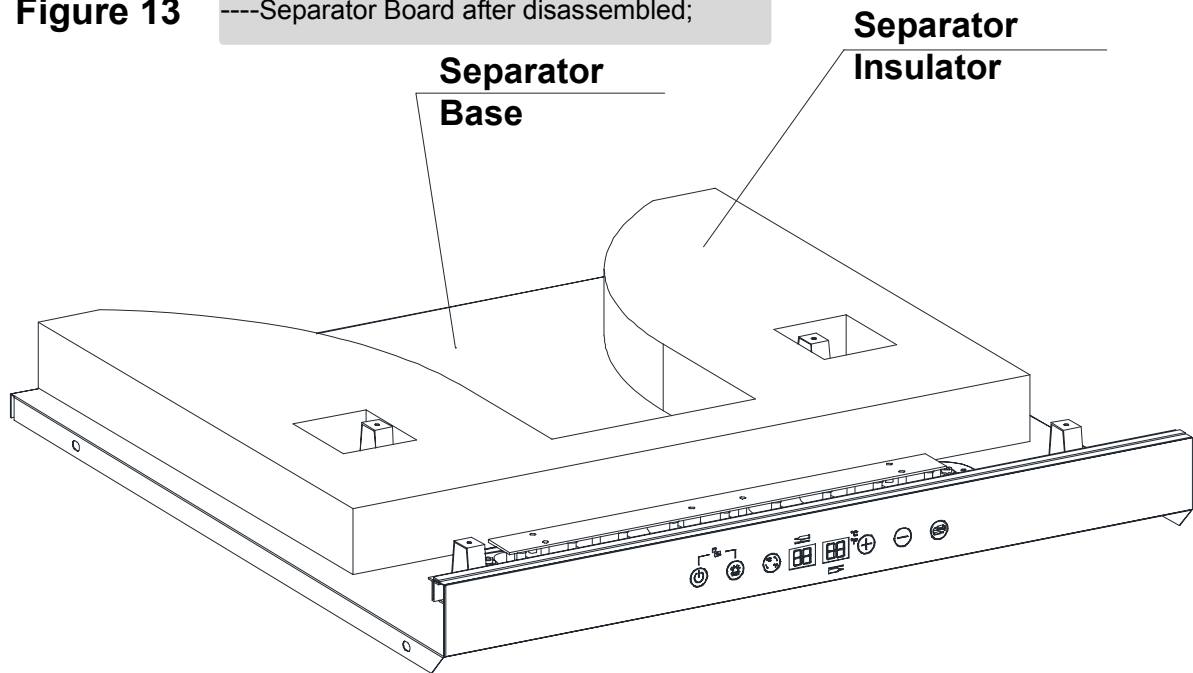

Figure 14
- Unscrew the 14 (No.1-14) screws on Lower Baffle Board one by one (**Figure 14**);